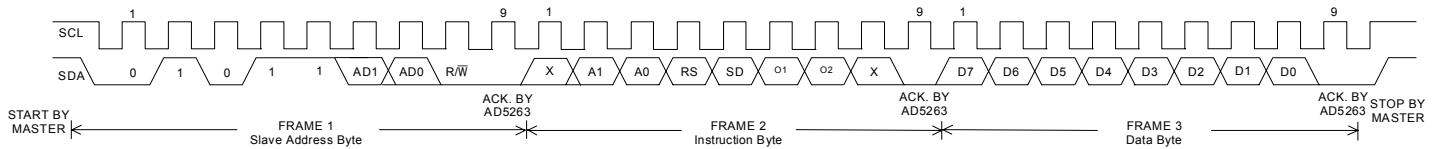
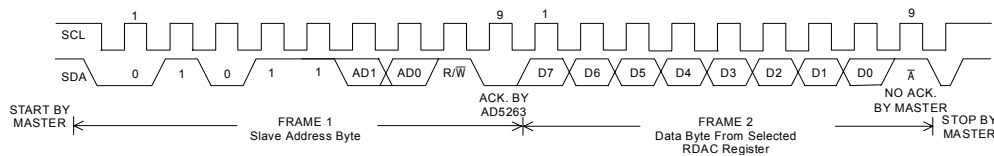

Figure 3a. Writing to the RDAC Register
Figure 3b. Reading Data from a Previously Selected RDAC Register in Write Mode
1. The master initiates data transfer by establishing a START condition, which is when a high-to-low transition on the SDA line occurs while SCL is high (see Figure 3a). The following byte is the Slave
Acknowledge bit). Similarly, the transitions on the SDA line must occur during the low period of SCL and remain stable during the high period of SCL (see Figure 3b).
- When all data bits have been read or written, a STOP condition is established by the master. A STOP condition is defined as a low-to-high transition on the SDA line while SCL is high. In Write Mode, the master will pull the SDA line high during the tenth clock pulse to establish a Stop condition (see Figure 3a). In Read mode, the master will issue a No Acknowledge for the ninth clock pulse (i.e., the SDA line remains high). The master will then bring the SDA line low before the tenth clock pulse which goes high to establish a STOP condition (see Figure 3b).